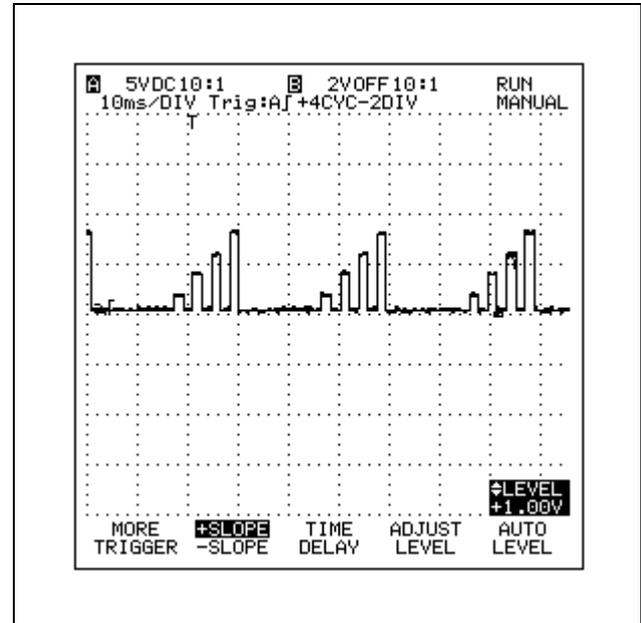

Figure 8-9 Triggering on N-CYCLE
4. Use  to adjust the trigger level to about 1.00V (see Figure 8-9).
The N-CYCLE sequence has a random starting position within the sequence of events. As the N-CYCLE counts trigger pulses, it always provides a trigger output after the nth occurrence (4th in this example, see Figure 8-9). In this way it remains synchronized so the waveform triggering always occurs on the same nth pulse in the sequence. In the N-CYCLE mode, triggering is possible only on INPUT A.